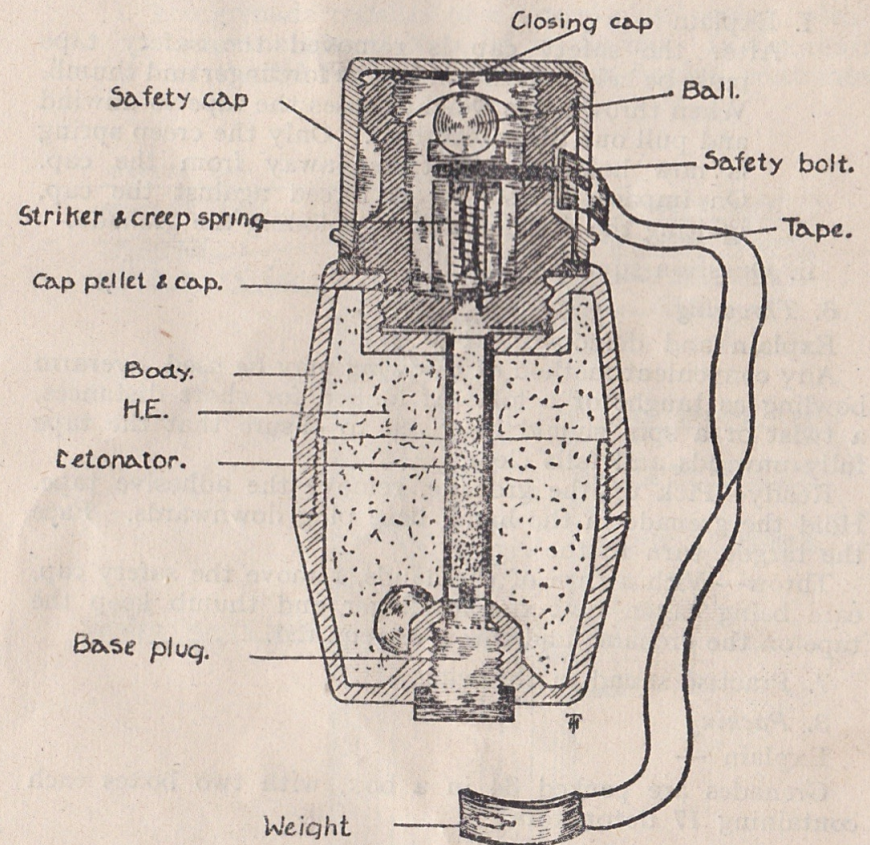

FIG. 15
- i. Explain and demonstrate where necessary (see Fig. 15) :